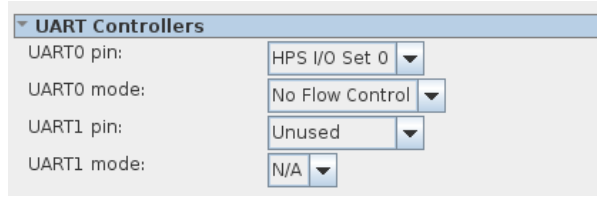

Figure 9-10. UART configuration
- a. Configure “UART0 pin” to “HPS I/O Set 0” and “UART0 mode” to “No Flow Control”, as shown in Figure 9-10.